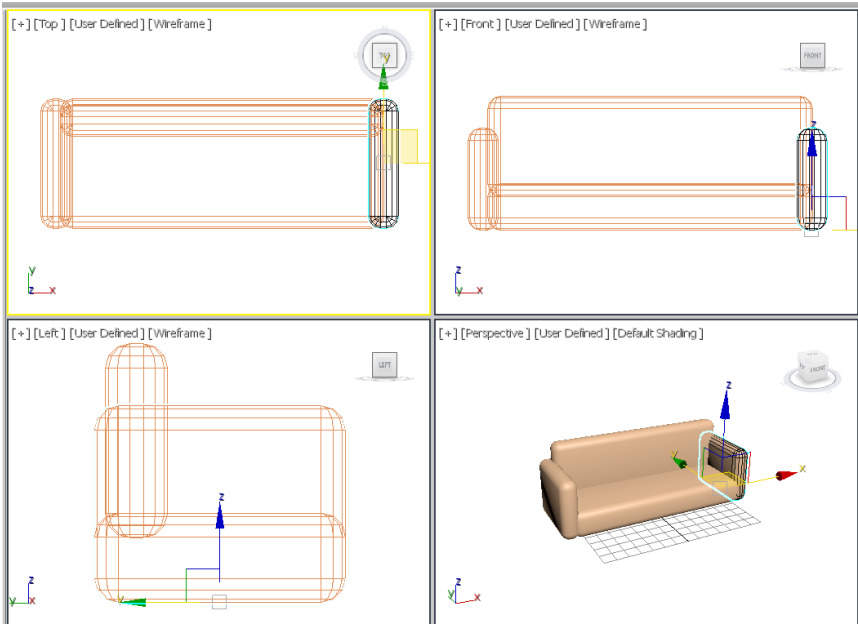

Figure 3-23 The right side geometry displayed in the viewports
- In the **Clone Options** dialog box, make sure that the **Copy** radio button is selected and the value in the **Number of Copies** spinner is set to **1**. In the **Name** text box, enter **right side** and choose **OK**; *right side* of the couch is displayed, as shown in Figure 3-23.